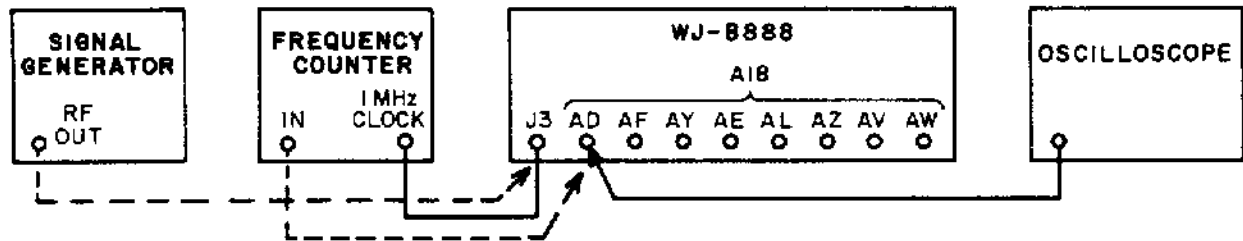

Figure 5-7. Test Setup, Time Base Stages
- (1) Connect the oscilloscope as shown in Figure 5-7.
- (2) Set the rear panel CLOCK switch to INT.
- (3) Connect the oscilloscope probe to each of the outputs shown for A18 and verify that for each one, the waveform is either a square wave or pulse having an approximate 3.2 volt peak-to-peak amplitude.
- (4) Connect the frequency counter input to the same eight outputs of A18 and ensure that the frequency is within ± 1 Hz of the following corresponding frequencies.